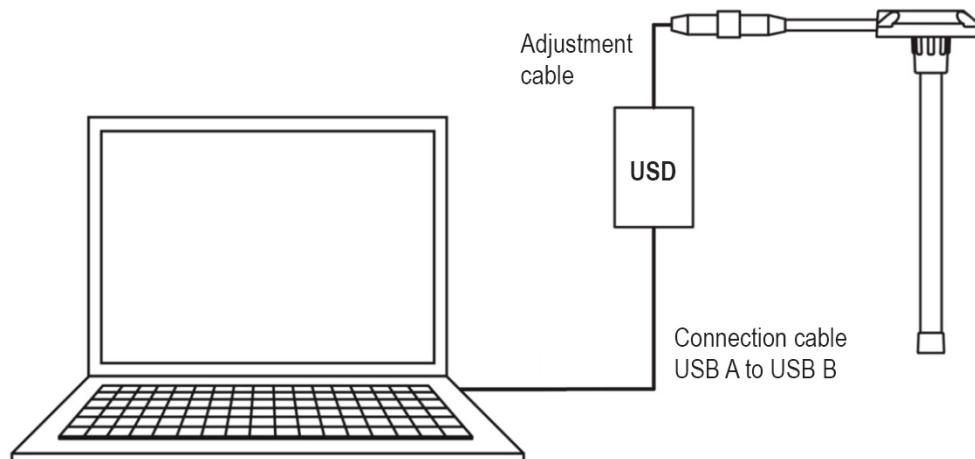

Fig. 6 – Device connection scheme to PC
1. Connect the device to the universal setup device (USD) using the adjustment cable. Connect the USD to the PC using the connection cable USB A to USB B. The wiring diagram is shown in *Figure 6*.